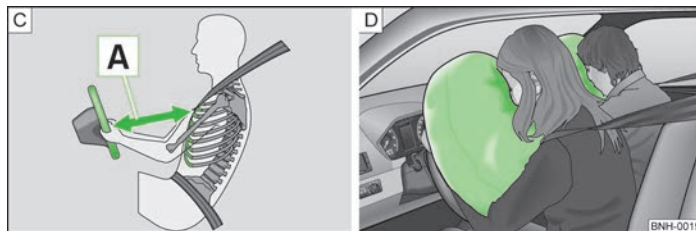

Fig. 100 Safe distance to steering wheel/inflated airbags.
If the airbags are deployed, the airbags are filled with a propellant gas and inflated in front of the driver and front passenger » Fig. 100 - D. The forward movement of the driver and of the front passenger is cushioned when they make contact with the fully inflated airbag and the risk of injury to head and chest is thus reduced.
- For the driver and front passenger, it is important to maintain a distance of at least 25 cm to the steering wheel or dashboard **A** » Fig. 100. Not maintaining this minimum distance will mean that the airbag system will not be able to properly protect you - hazard! The front seats and the head restraints must always also be correctly adjusted to match the body size of the occupant.